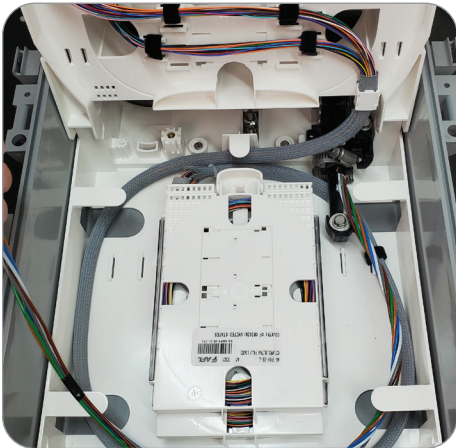
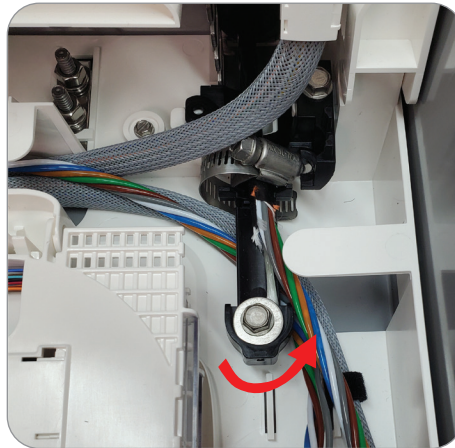

Figure 82
Figure 83
1. Route the slack sub-units or buffer tube around in the backplate of the enclosure (**Figure 82**). Ensure these are routed under the Cable Attachment Unit (**Figure 83**).